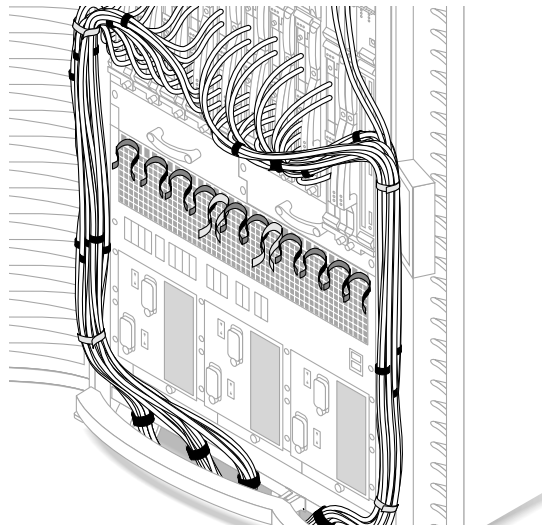

FIGURE 11 Air Plenum Removal—Front
3. **Secure the bundles with the upper green cable strap (No. 6) on the adjacent door (FIGURE 11).**
- 3. Secure the bundles with the upper green cable strap (No. 6) on the adjacent door (FIGURE 11).**